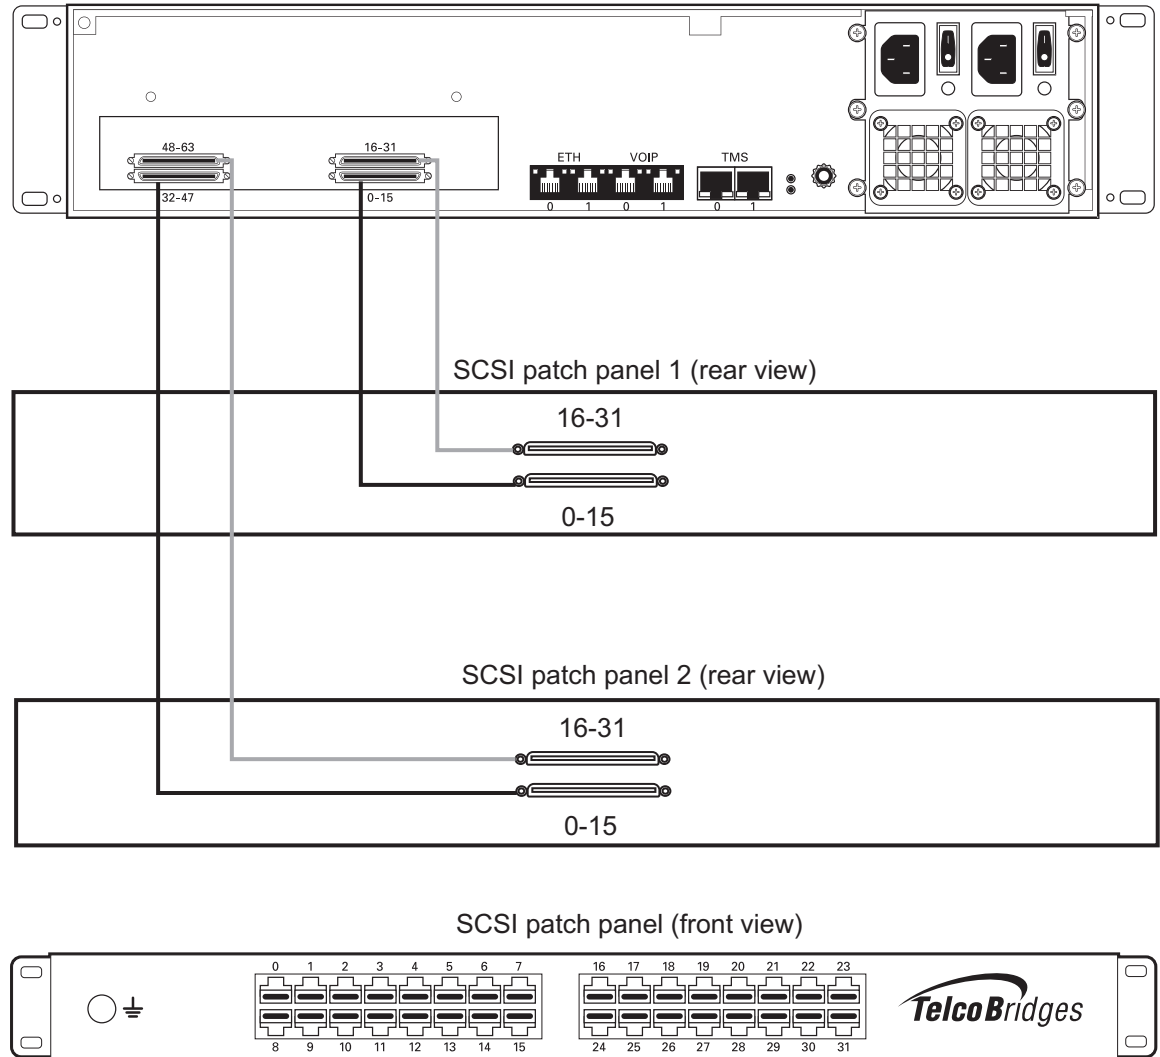

Figure 2.6 TMG3200 with SCSI connectors
1. Start with SCSI ports 0-15 located at the bottom right as shown in figure 2.6 on page 21. Connect one SCSI cable between this port and SCSI patch panel number 1, ports 0-15. Connect SCSI ports 16-31 to patch panel number 1, ports 16-31.